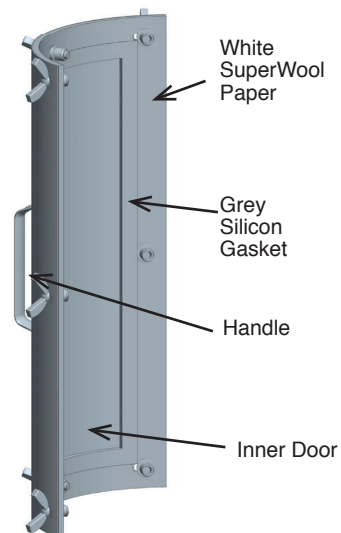

Figure 88: Step 6 of Removal for Inspection for the ADL
- 6- Inspect the ceramic gasket (white) and the silicone gasket (gray) attached on the inside of the Inner door for any damage (see **Figure 88**). If any damages, you must replace one or both gaskets. See **Figure 88**